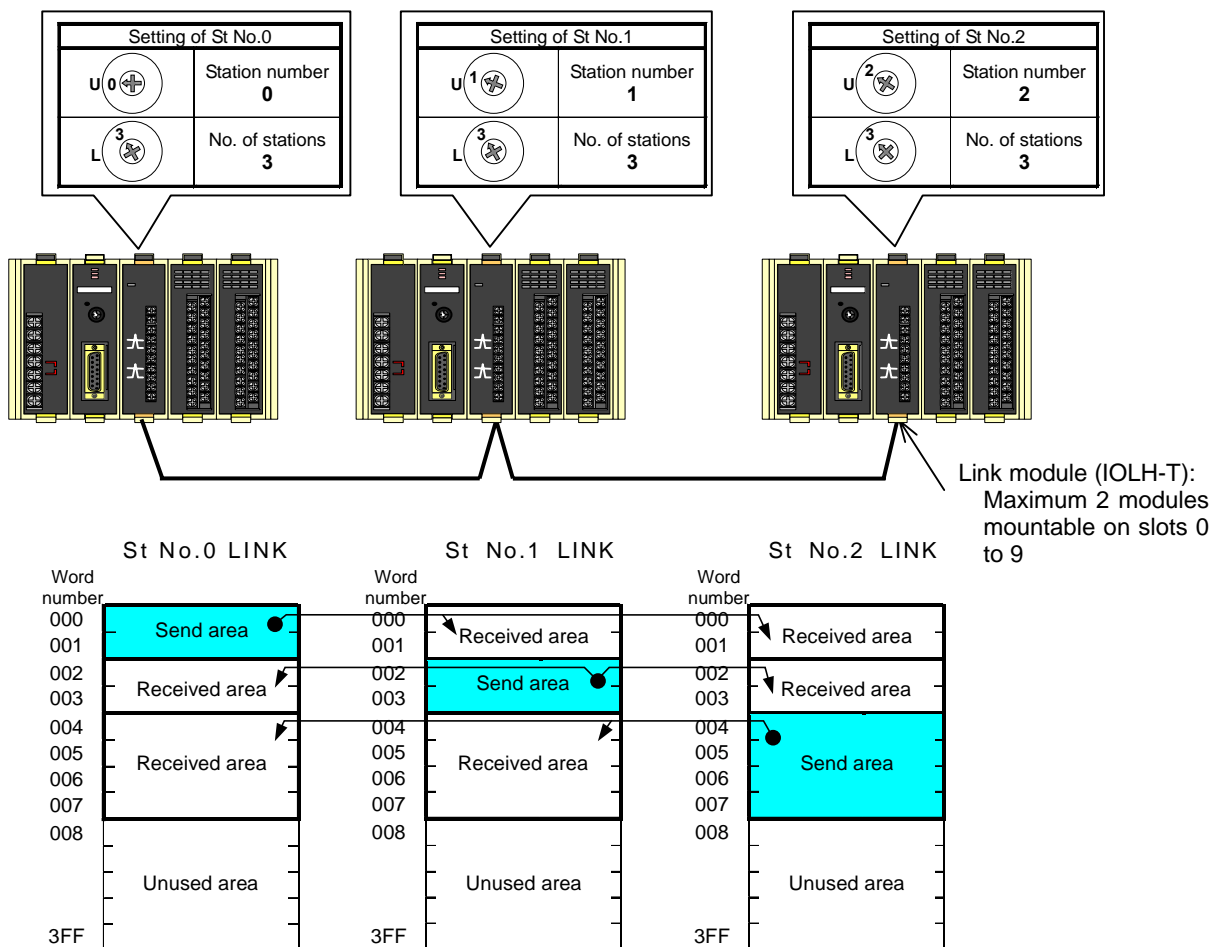
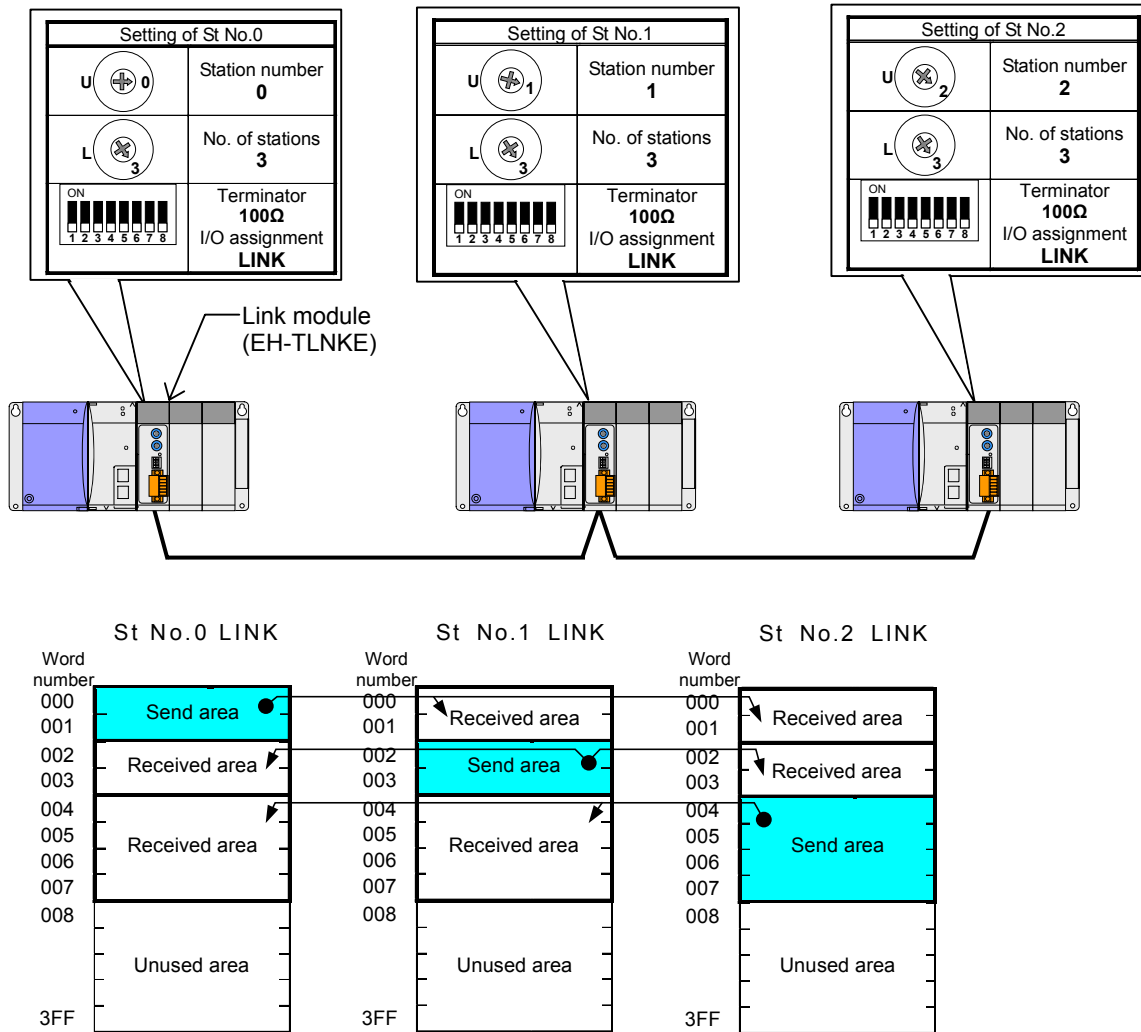

Figure 4.4.1 System configuration example-4 of the H-200 series
Figure 4.4.2 Replaced system configuration example-5 of the EH-150
Figure 4.4.1 shows the system configuration example of the H-200 series. Figure 4.4.2 shows the replaced system configuration example of the EH-150 series.
Figure 4.4.2 is an example of replacing all of link system with the EH-150 series. It is also possible to leave all or partially stations of the H-200 series in order to postpone the wiring work of stations. In this case, please turn on communication mode (MODE), and turn off high-speed refresh mode (HS) of a front DIPswitch of the compact link modules.